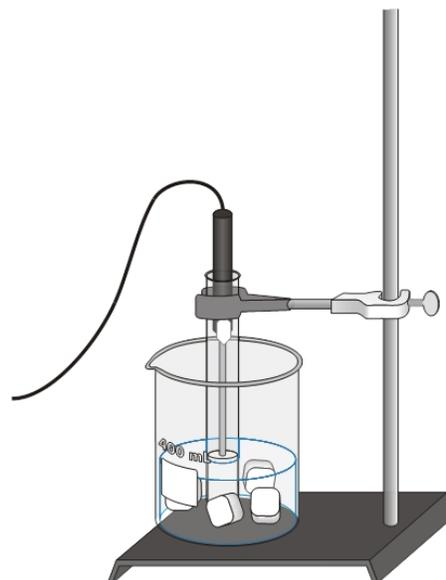

Figure 1
2. Put 5 mL of water into a test tube and use a utility clamp to fasten the test tube to a ring stand. The test tube should be clamped above the water bath. Place the Temperature Probe into the water inside the test tube as shown in Figure 1.